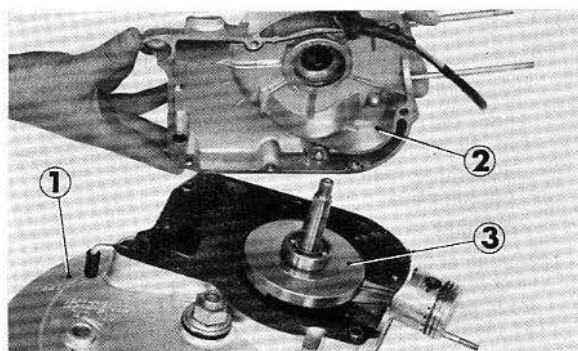

Fig. 2-50 ① Right crankcase ② Left crankcase ③ crankshaft
2. Assemble left crankcase after making sure that the two hollow dowel pins are installed. (Fig. 2-50)